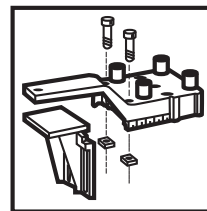

Figure 17
- Attach the angle piece to the dowel jig using the screws and square nuts. Insert the screws through the two holes on the top of the jig and attach the square nuts to the bottom. Do not tighten. Slide the angle piece into the slot between the bottom of the jig and the square nut. Keep the angle piece slightly loose. See Figure 17.